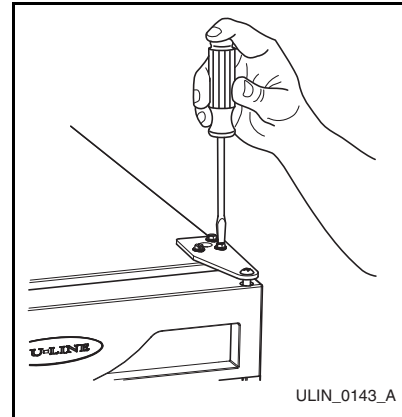

Figure 10
1. Loosen (do not remove) top (**Figure 10**) and bottom hinge screws.